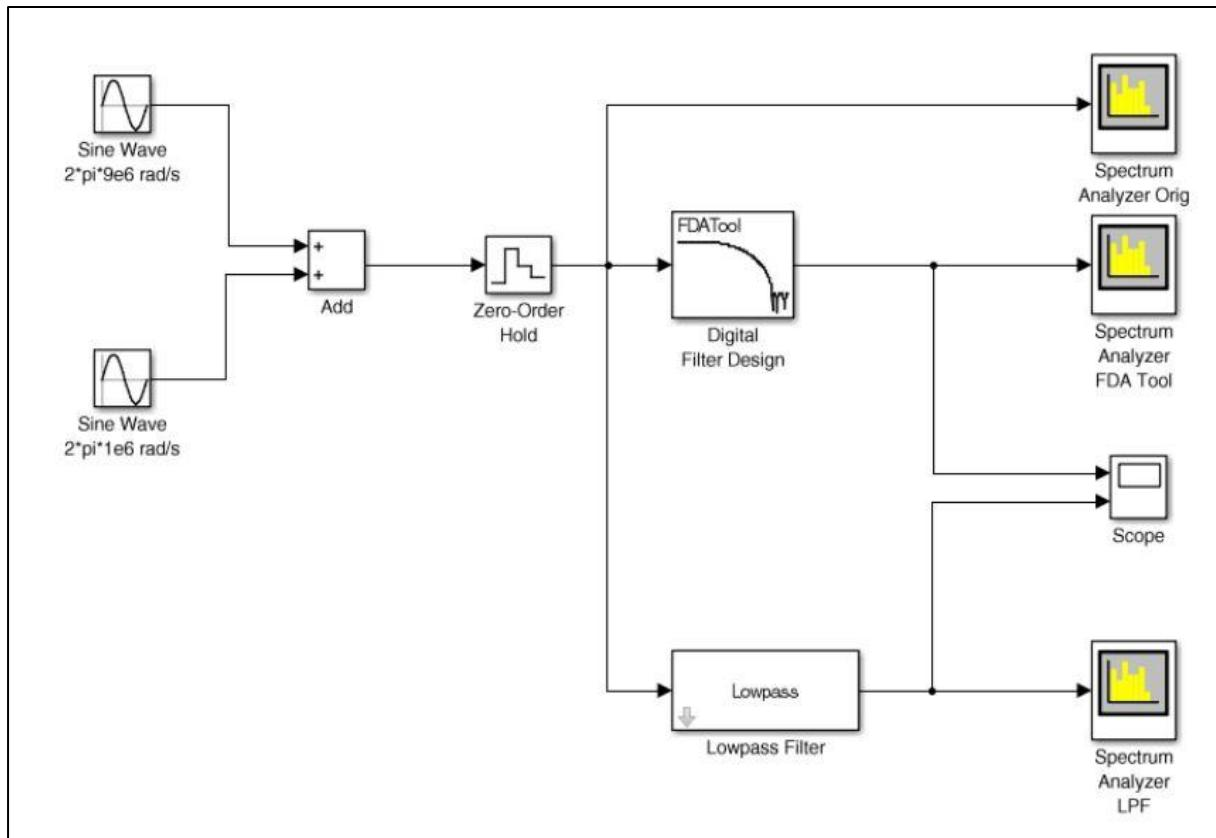

Figure 1: Lab1 Design
In this lab, first we will make a design as shown in figure 1.
1. Click on **Simulink Library** in the MATLAB Window, and add the blocks as per the design requirements shown in the figure 1.
Rename the instance as per the design in figure 1.
After configuring each block, we will connect the blocks as per the design shown in figure 1. And Save the file as *File > Save As > Lab1*.